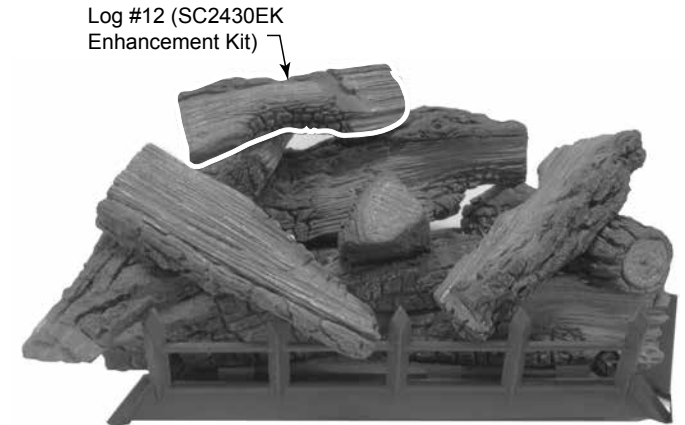

Figure 6.25 - Log #12 Placement
- Place log #12 onto mid left log (#8) and mid rear log (#7) by placing notch on bottom of log onto locating block on log #8. Rest right end of log onto top of log #7. See Figure 6.25.